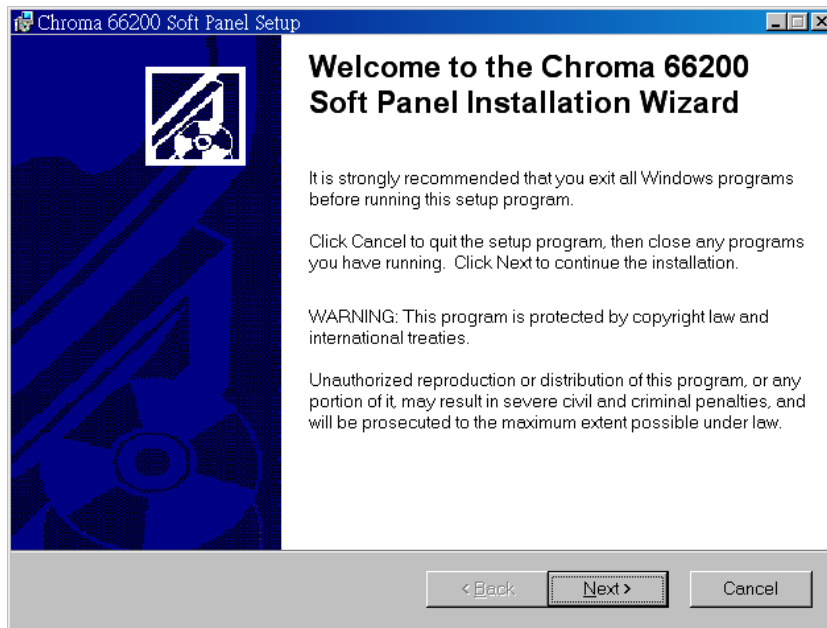

Figure 2-3 Chroma 66200 Soft Panel Installation Screen
2. Click **Chroma 66200 Soft Panel** and it will prompt a window as Figure 2-3 shows. Click **Next** to carry on the installation.